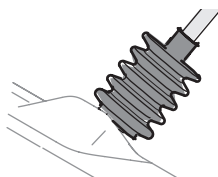

Figure 13
6. Slide the rubber bellow over the universal joint (Figure 13).